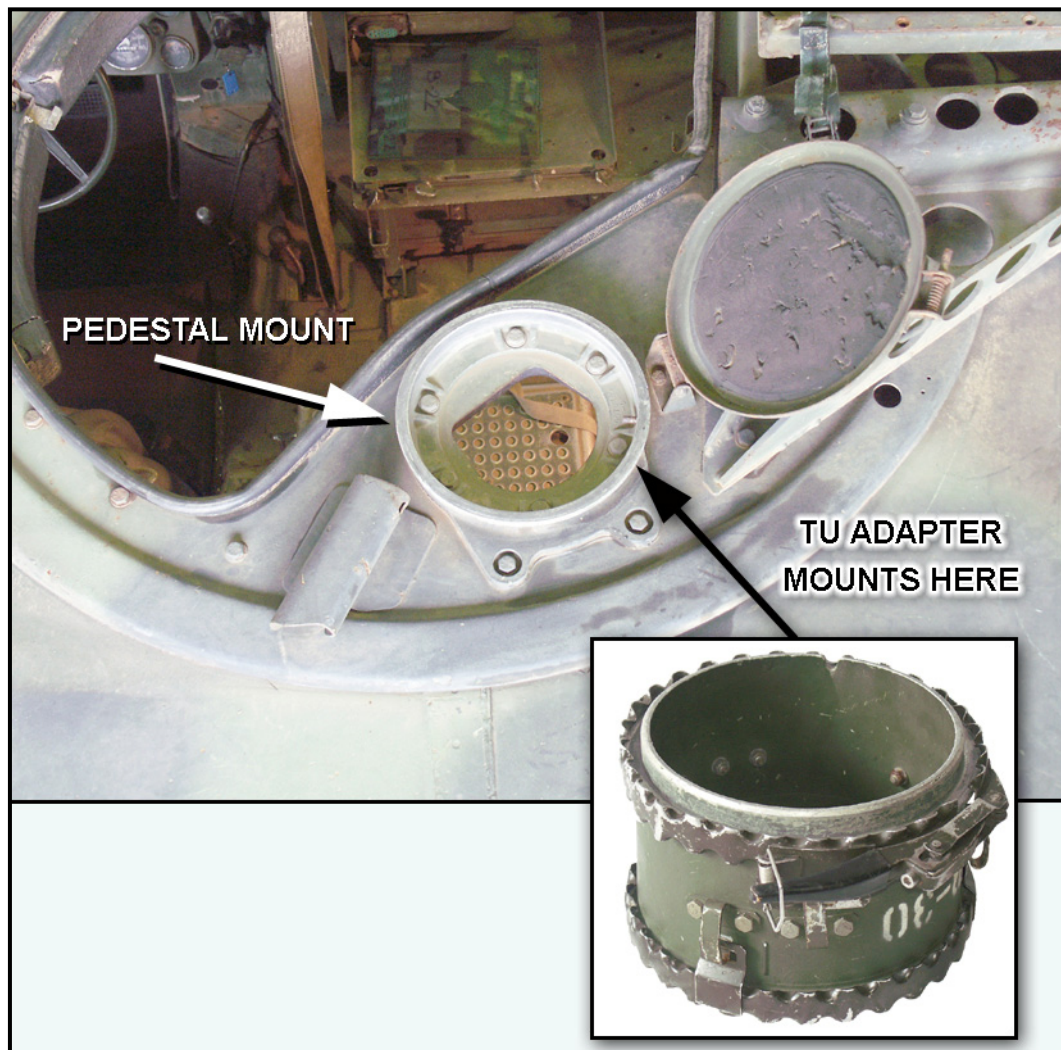

Figure 3-2. TU adapter attaches to pedestal mount.
d. The gunner attaches the TU adapter to the pedestal mount (Figure 3-2).